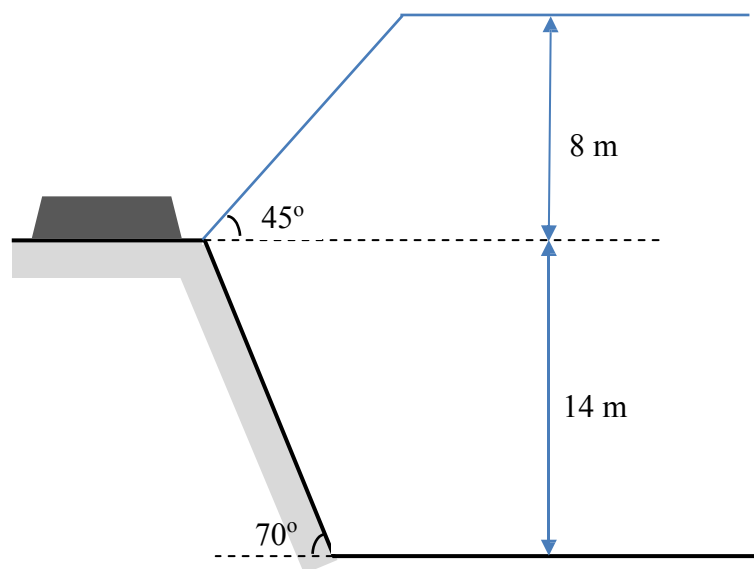

Fig. 1 (not to scale)
- (d) A landfill has a 1 m thick side slope that is at an angle of  $70^\circ$  with respect to the horizontal as shown in Fig. 1. A geomembrane of thickness 4 mm and mass per unit area  $23 \text{ kg m}^{-2}$  is laid on this slope. The friction angle of the geomembrane with respect to the clay side slope is  $12^\circ$  and the same with respect to the waste is  $8^\circ$ .
- (ii) The waste is filled to a height of 8 m above the ground level with a slope angle of  $45^\circ$  with the horizontal as shown in Fig. 1. The waste is well compacted and has a unit weight of  $7.5 \text{ kN m}^{-3}$ . Estimate the tensile stress in the geomembrane due to down-drag. Justify any assumptions you had to make. [25%]